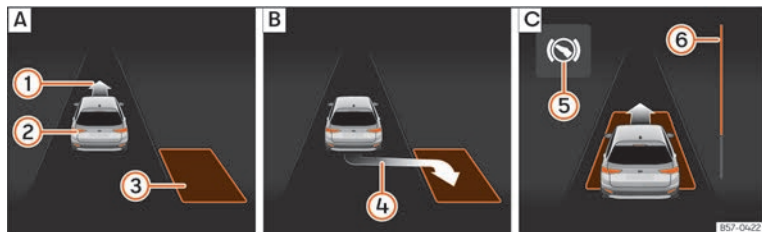
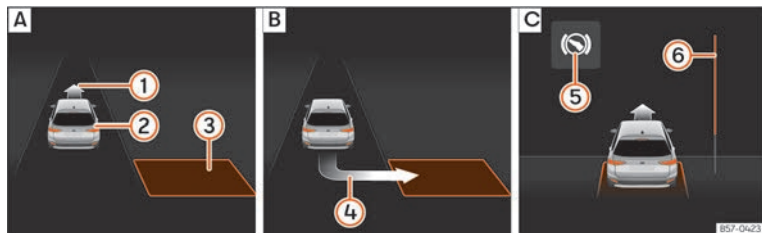

Fig. 166 On the instrument panel display: parallel parking. **[A]** Finding a parking space. **[B]** Parking position. **[C]** Manoeuvring.
Fig. 167 On the instrument panel display: angle parking. **[A]** Finding a parking space. **[B]** Parking position. **[C]** Manoeuvring.
- Look at the display on the instrument panel to see if the space has been detected as “appropriate” and if the correct position for parking has been reached »» Fig. 166 [B] or »» Fig. 167 [B]. The space is considered
- Reverse until the continuous ParkPilot signal sounds; **OR:** reverse until the indication to move forward appears on the instrument panel display »» Fig. 166 [C] or »» Fig. 167 [C]; **OR:** reverse until the **Park Assist finished** message appears on the instrument panel display. The progress bar [6] indicates the distance to cover »» page 246.
- Move forward until the continuous ParkPilot signal sounds; **OR:** move forward until the reverse indication appears on the instrument panel display. The Park Assist system steers the vehicle forward and back until it centres it in the space »» Fig. 166 [C] or »» Fig. 167 [C].
»» Fig. 166 [6] and »» Fig. 167 [6] on the screen of the instrument panel displays the relative distance to be covered. The greater the distance, the fuller the progress bar. When driving forward, the content of the progress bar decreases upwards, and when reversing, it decreases downwards.